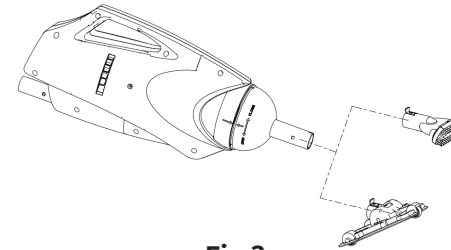

Fig 3
3. Attach the desired cleaning head accessory to the vacuum body cover. See fig 3. and 4.